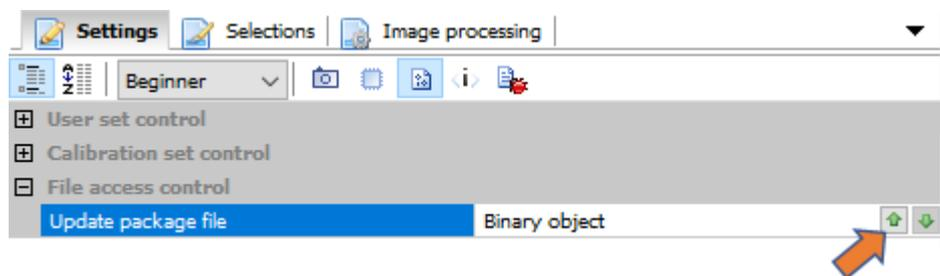

Figure 6-2 Firmware upgrade (for CL / GigE Vision)
- o Click on the green upload arrow (= arrow up) (see Figure 6-2)